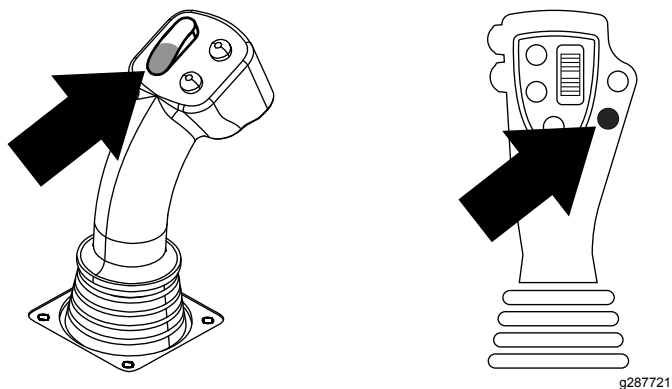
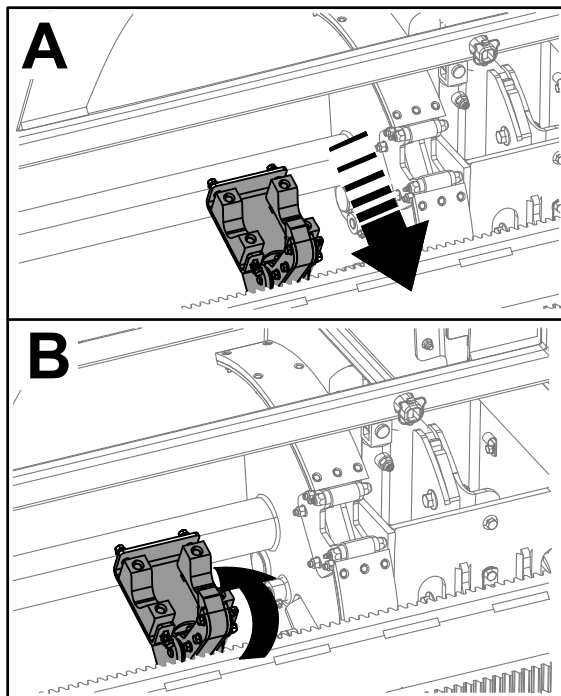

Figure 40
Figure 41
7. Hold the lower right button on the 8-button joystick (Figure 10) or the lower section of the rocker switch (Figure 40) on the 4-button joystick until the loader arms rotate toward the pipe box. As they rotate past the cam assembly the pipe grippers close on the pipe, bringing it to the drill string (Figure 41).